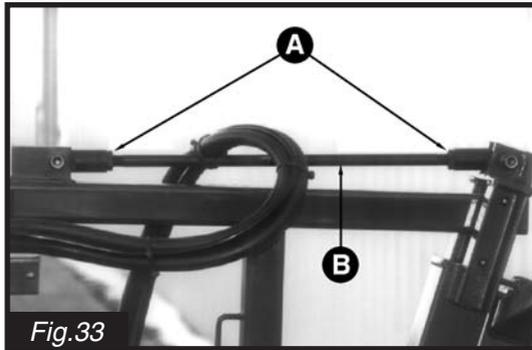

Fig.33
1. Loosen jam nuts (**A**)(Fig. 33).
2. Adjust length of rod (**B**)(Fig. 33) until wing is level to ground.
3. Secure jam nuts (**A**)(Fig. 33).